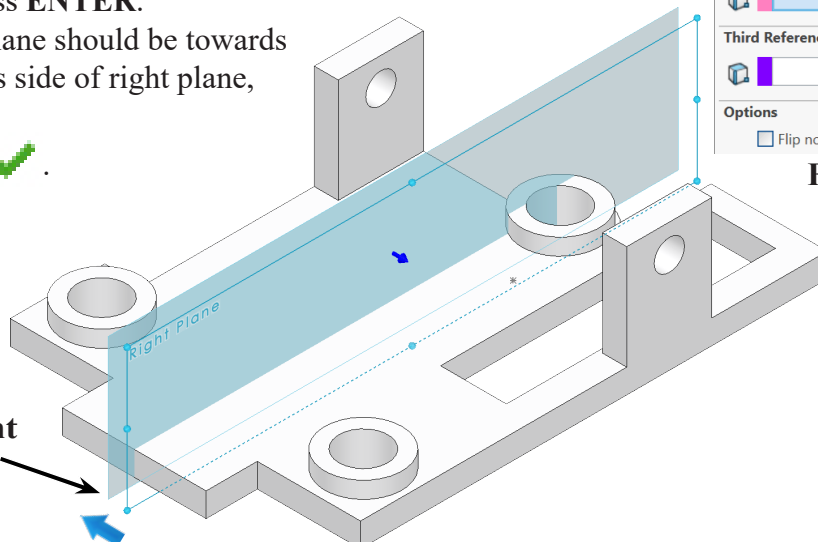

Fig. 45
Step 2. In graphics area **Ctrl drag Right plane to right hand side of the vehicle** (passenger's side) and release, **Fig. 45**.
The new plane should be towards passenger's side of right plane, **Fig. 45**.